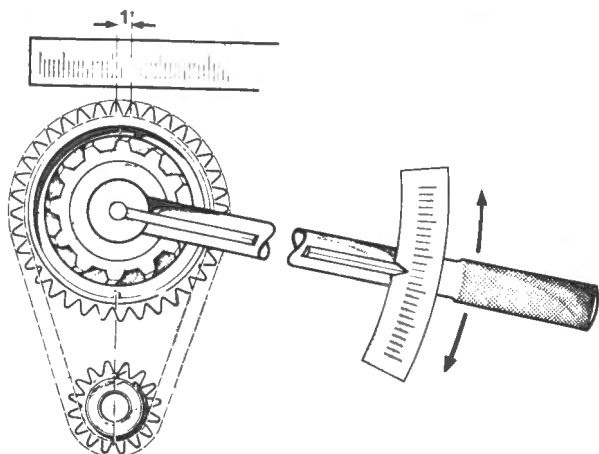

Fig. D-62
- (a) Position a suitable scale as shown in Fig. D-62.